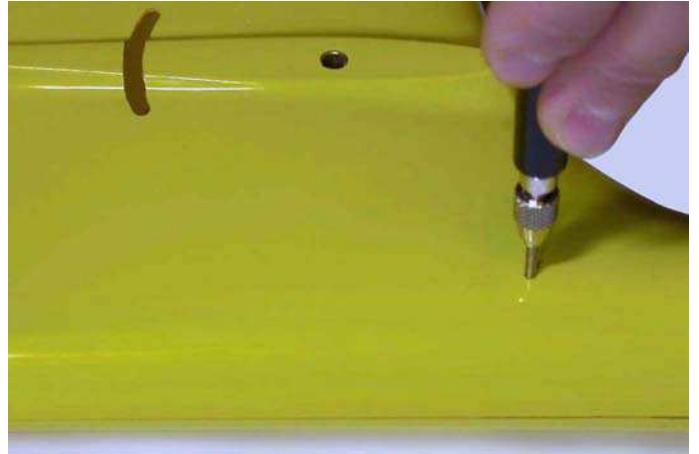

Fig.29: Drill the marked point.
- drill **1.5 mm** diameter hole on the marked point (see figure 29);